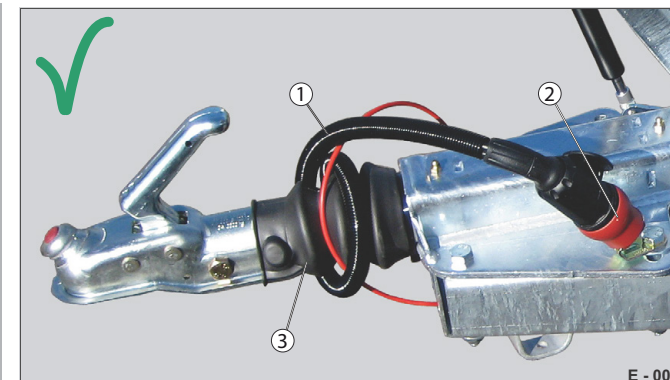

Fig. 7 Cable duct
- ▶ Carefully wind the cable (Fig. 7 /1) around the drawbar / rubber sleeve (Fig. 7 /5) - when doing so, make sure you do not pull on the cable.